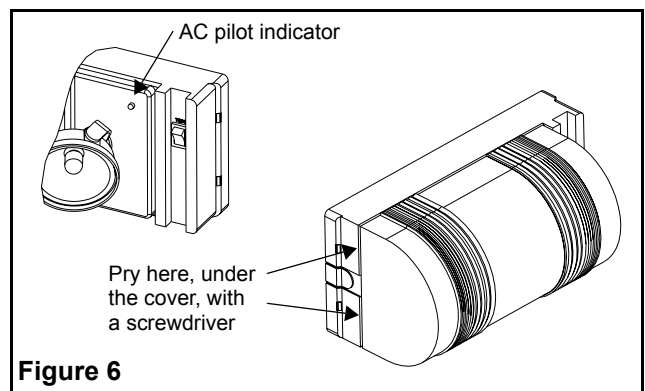

Figure 6
9. Remove the clear lens by prying with a screwdriver, under the cover on the conduit side (see fig. 6).
11. Energize AC. The AC pilot indicator, located under the cover, will illuminate (see fig. 6).